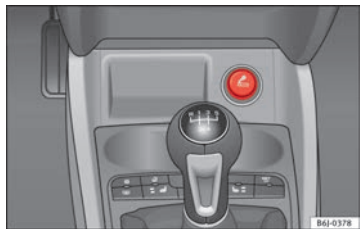

Fig. 91 Lighter.
- Press on the cigarette lighter ⇒ Fig. 91 to activate it ⇒ ⚠.